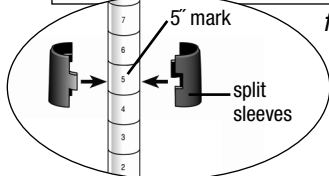

figure 2a
- A** Posts are numbered in 1" increments. Snap split sleeves onto each post at the 5" mark as shown in *figure 2a*. The thicker part of the taper goes toward the bottom. Make sure rib in split sleeve is seated into groove on post.